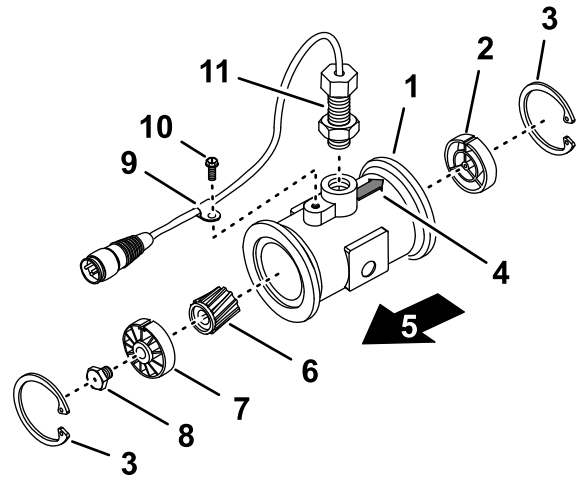

Figure 111
3. Remove the retainer ring on the upstream side (Figure 111).